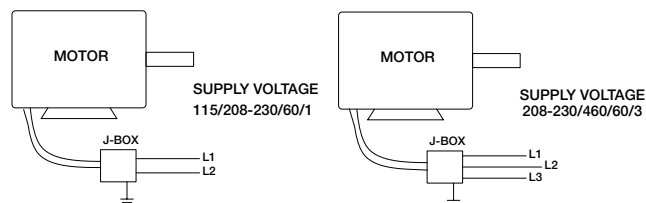

Figure 4
10. Mount and wire safety disconnect switch under motor cover. Wire control switches at ground level, refer to Figure 4.